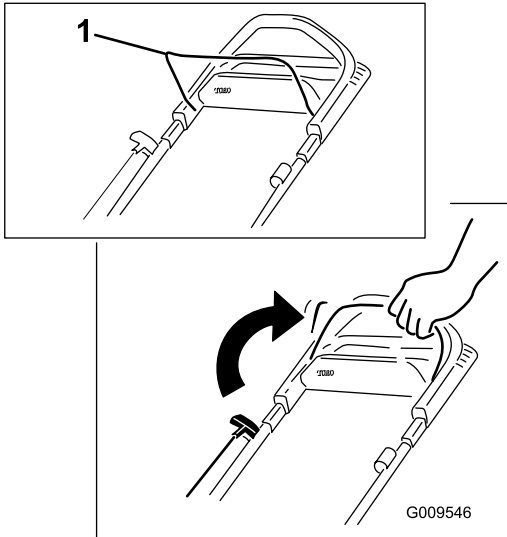

Figure 13
1. Hold the blade control bar against the handle (Figure 13).